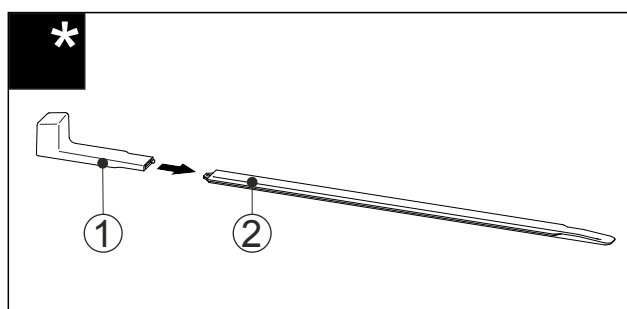

Fig. 47
- Attach the installation handle *Fig. 47 (1)* to the levelling rail *Fig. 47 (2)*.